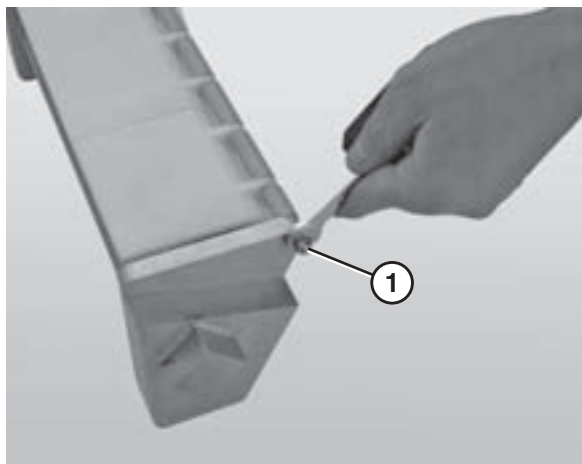

Figure 76
4. Use a 10 mm wrench to remove one of the acorn nuts (Figure 76, item 1) from the nose bar shaft.